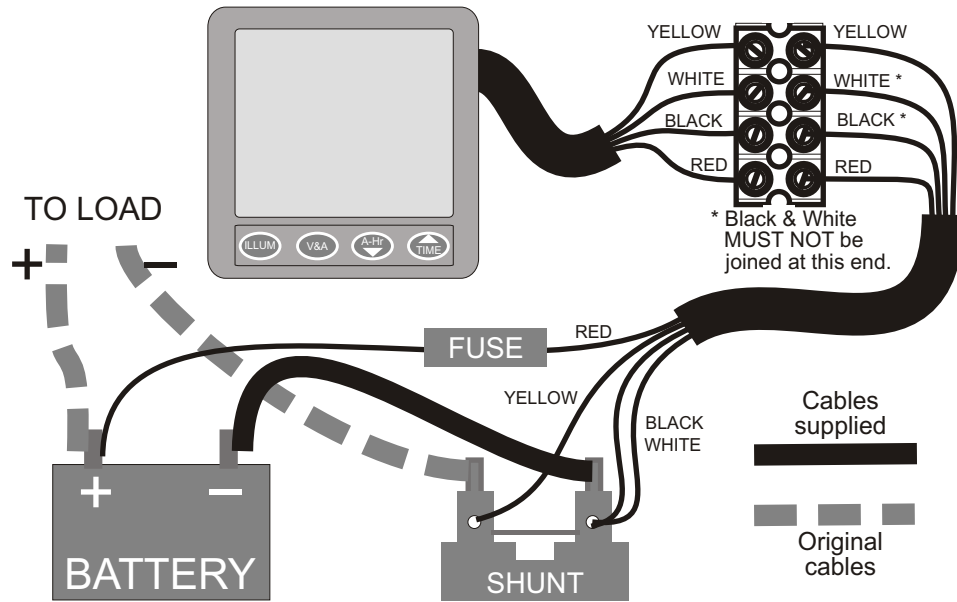

Figure 1 - Wiring Installation
- 5 Connect the shunt cable to the display unit as shown on Figure 1, below, using the terminal block supplied. Be careful to connect the wires exactly as shown, noting that the black and white wires are joined at the shunt connection, and are connected separately at the instrument end of the cable.
- 9 Disconnect the NEGATIVE terminal from the battery and connect to the shunt as shown on Figure 1. Ensure it is positioned where it
- 10 Connect the Black and White wires and Yellow wire to the shunt as shown on Figure 1.